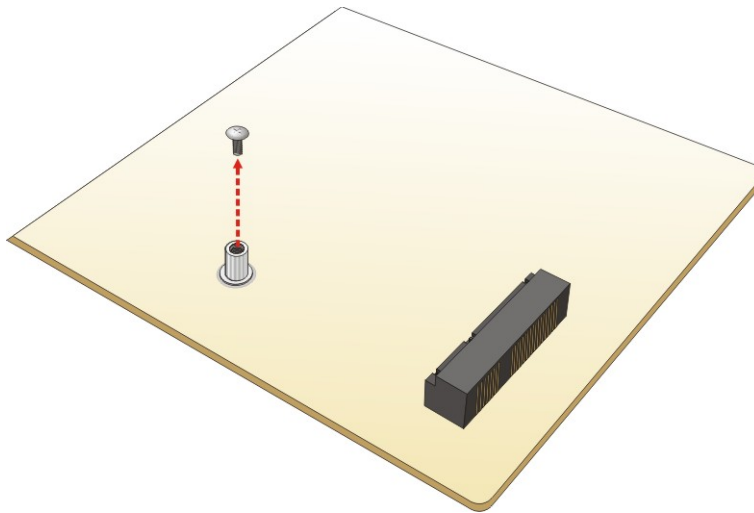

Figure 4-7: Removing the Retention Screw
Step 2: Remove the retention screw. Remove the retention screw as shown in Figure 4-7.